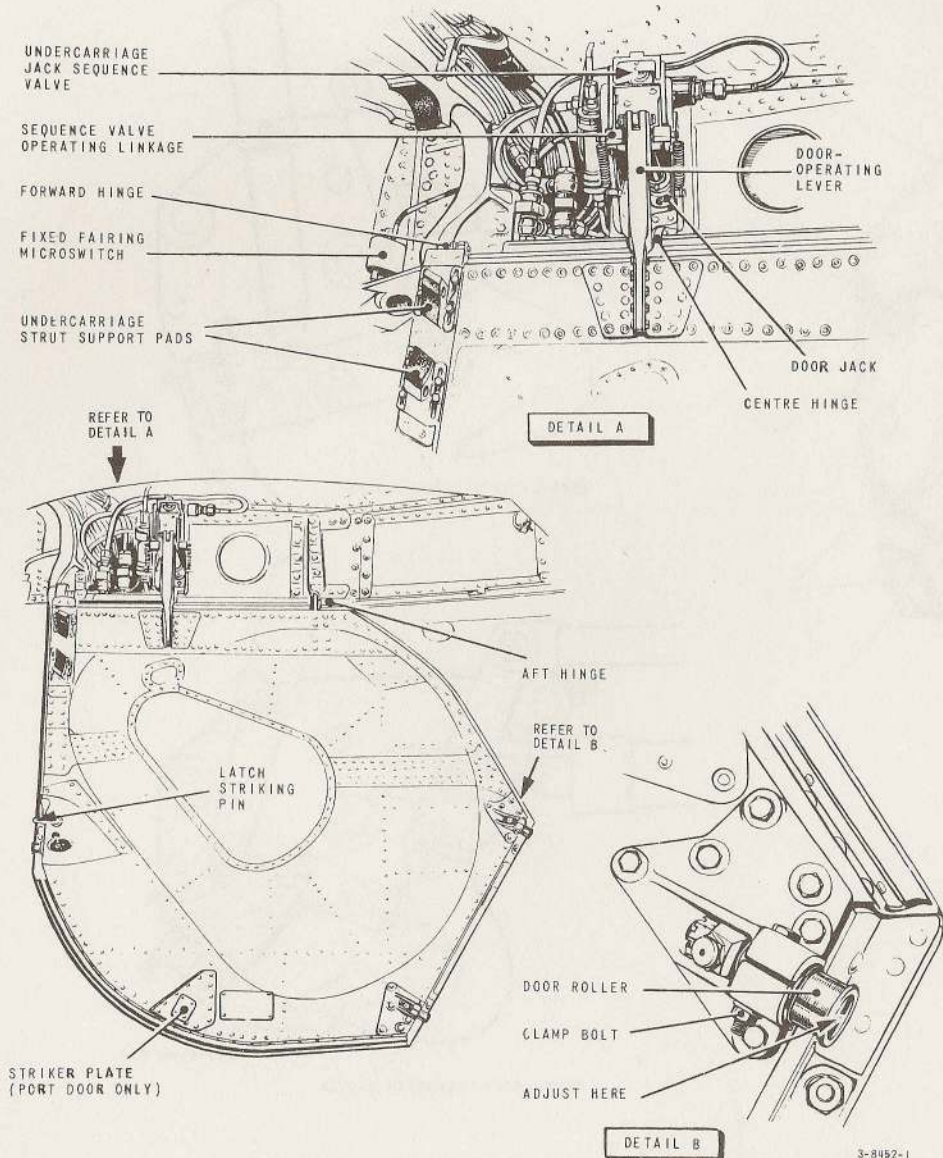

Fig.2. Wheel-well doors
## Wheel-well doors (fig.2)
11. Three microswitches are fitted to each main undercarriage, two to indicate correct retraction and locking, and one to indicate correct locking in the down position. The up microswitches are fitted, one in the latch mechanism (para.9) and one on main-plane rib 11B (fig.2), the latter being tripped by the fixed fairing when the strut is fully retracted. The electrical circuits of these two switches are arranged so that the cockpit indicator lights will be extinguished only when both strut and door are fully retracted and locked. The down microswitch is fitted to the radius rod and is operated by the main down-lock only when the latter is fully engaged. For further details of the microswitch electrical circuits and cockpit indicator functioning, refer to Sect.6, Chap.5.